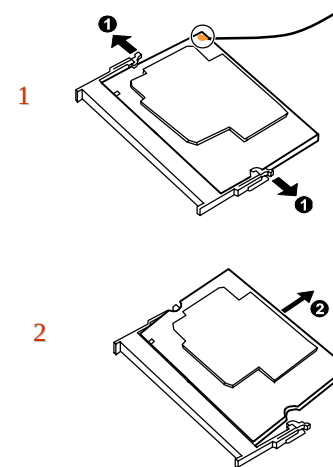

Figure 2-9 Remove the antenna
3. Disconnect the antenna connecting the wireless card. (Figure 2-9 step 1)
4. Pull the retaining clips outwards (❶) and remove the wireless card (❷). (Figure 2-9 step 2)